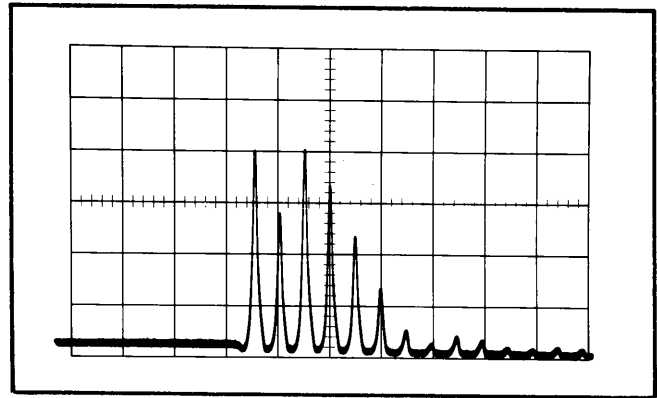

Fig. 6-24. Calibrator display when checking the MANUAL Sweep Mode operation.
- f. Rotate the SWEEP control through its range. The display should resemble Fig. 6-24.